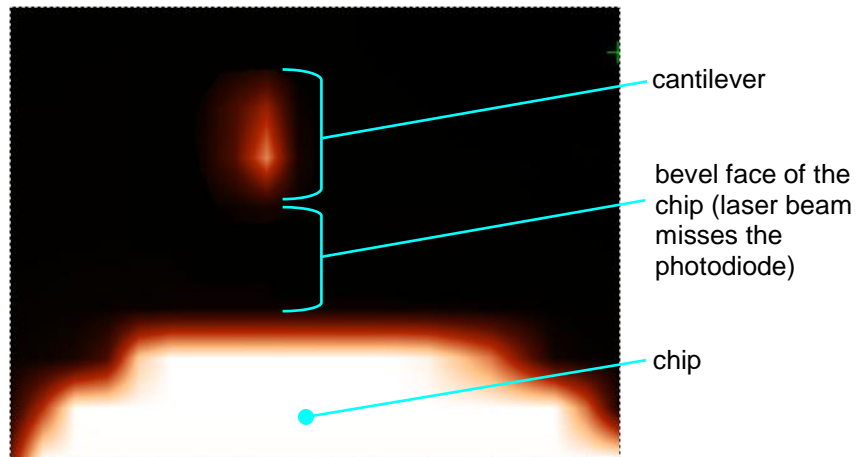

Fig. 6-43. Laser intensity distribution in the search area
- The reflected laser beam comes to the photodiode (see Fig. 6-43). Go to step 8 and perform fine search for position of the laser to maximize the laser signal.